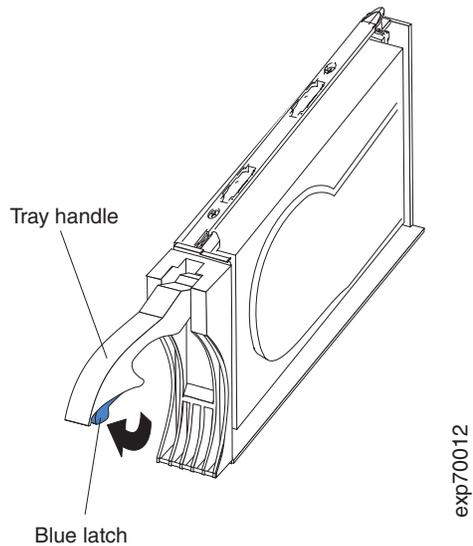

Figure 53. Drive CRU latch
- b. Pull the handle on the tray out so that it is in the open position, as shown in Figure 53.
- a. Press on the inside of the bottom of the tray handle to release the blue latch as shown in Figure 53 on page 67.